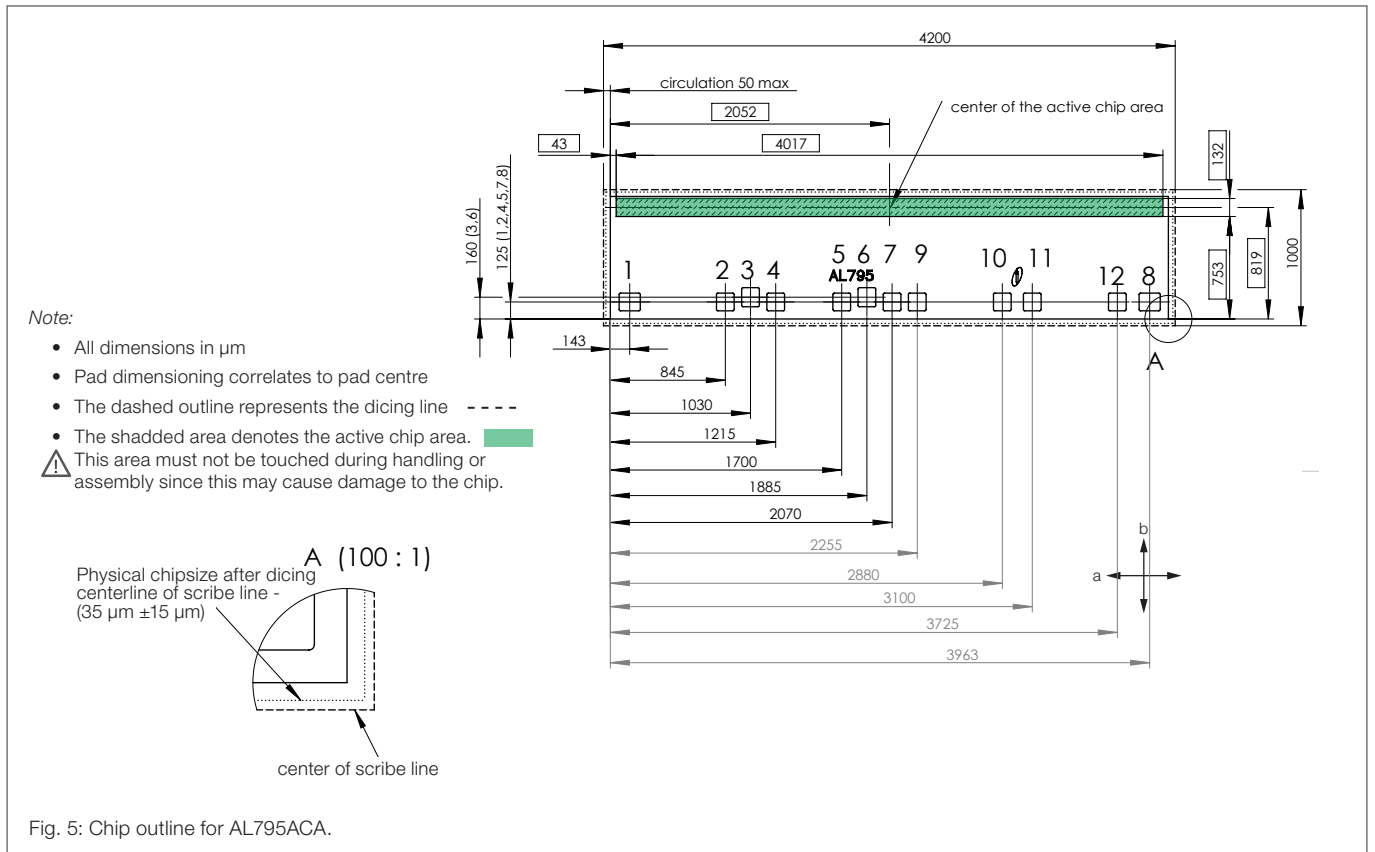

Fig. 5: Chip outline for AL795ACA.
1) Tolerances of chip see Fig. 5.